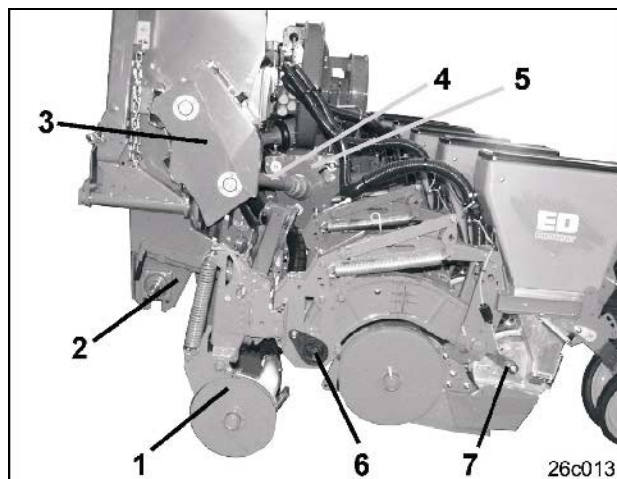

Fig. 27
The singling discs of the sowing units are driven by the drive sprockets (Fig. 27/1) by means of
- the chain drive (Fig. 27/2)
- the 36-step mechanic setting gearbox (Fig. 27/3).
- the PTO shaft (Fig. 27/4) and
- the secondary transmission with rotation reversing (Fig. 27/5).
The power transmission from the sowing unit drive shaft (Fig. 27/6) to the singling discs is provided by the central drive. The central drive consists of sprockets and a roller chain, which are well guarded inserted in the lower link (Fig. 27/7) of the parallelogram guidance..